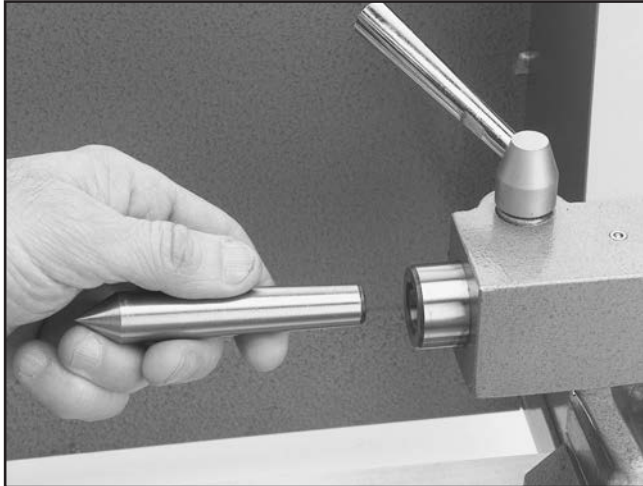

Figure 18. Inserting dead center into tailstock barrel.
3. Insert the end of the dead center into the tailstock barrel, as shown in **Figure 18**, until it seats tight enough that it will not rotate when turned by hand. *Note—do not worry about pushing the dead center into the barrel too far. The force of the center contacting a mounted workpiece will fully seat the taper when the handwheel is tightened.*